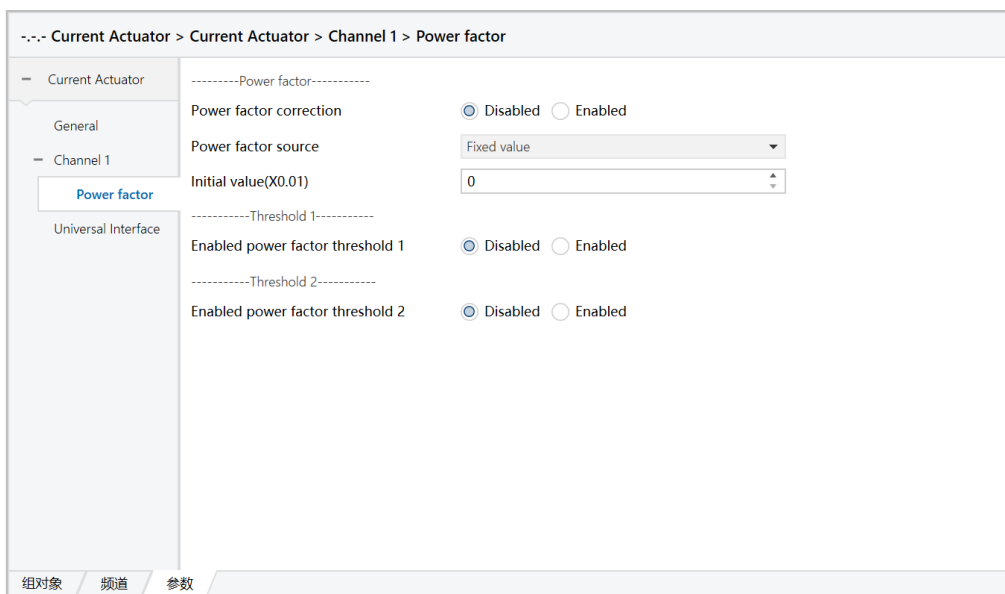

Figure 6.2.8
(2) Click the option in the red box above, set the parameters, the following Channel 1 as an example, as shown in Figure 6.2.8